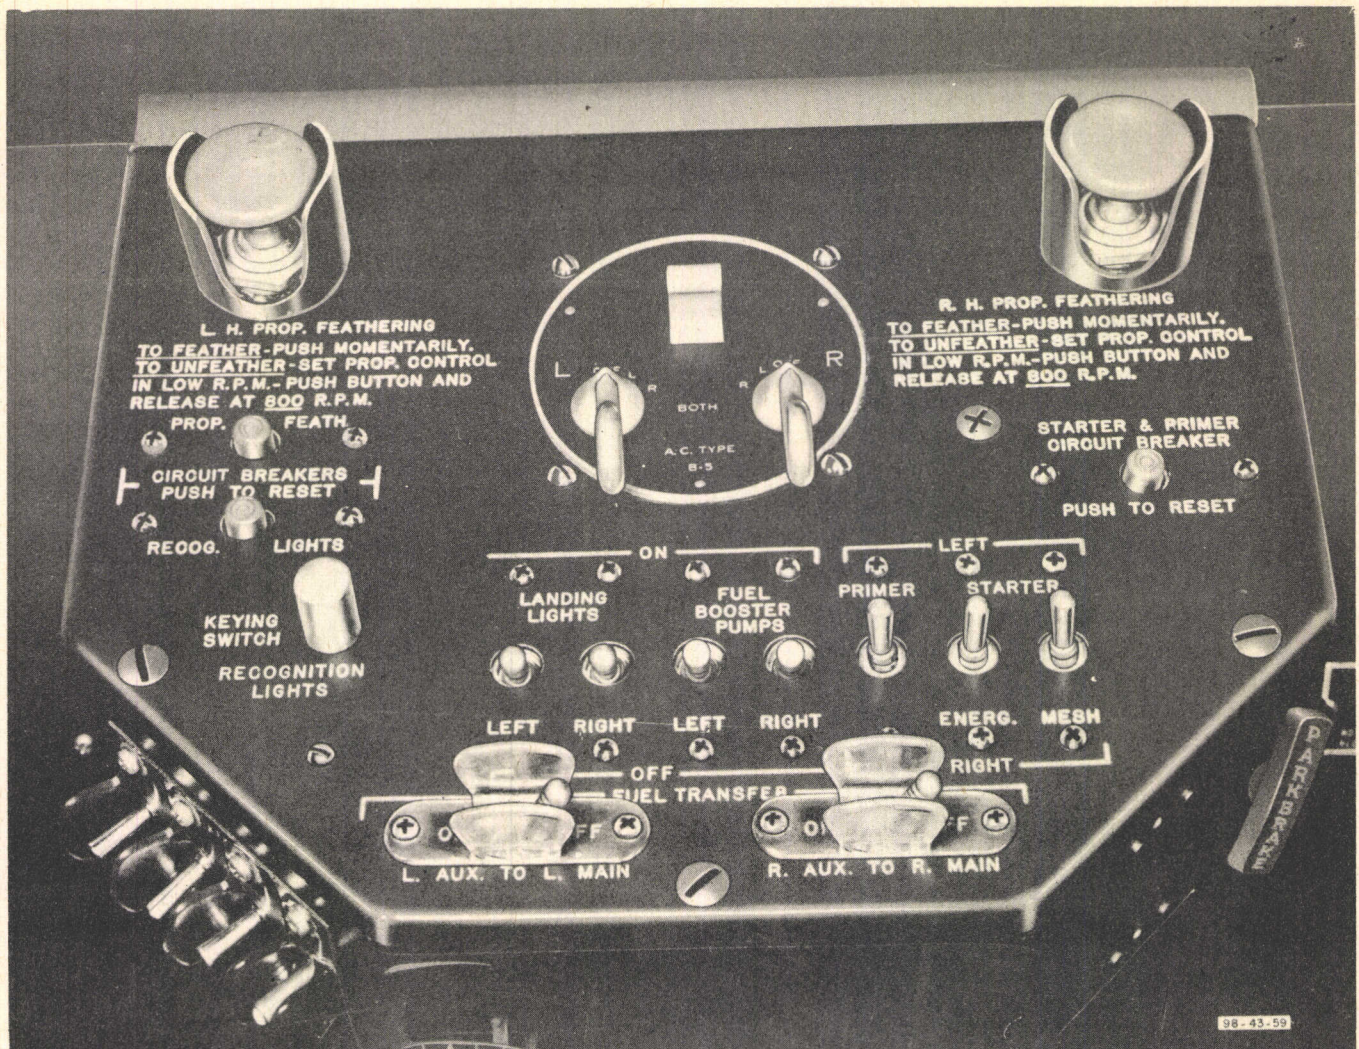

Figure 26—Control Pedestal Switch Panel
- (11) Turn "ON" the fuel booster pump switches, located on the control pedestal switch panel (*see figure 26*). Check the fuel pressure gage for 4 to 5 lbs./sq.in. pressure.
- (12) Turn "ON" the ignition safety switch, located on the pilot's control pedestal.
- (13) Turn the ignition switch for the engine to be started first to the "BOTH" position.
- (14) Press starter energizing switch on control pedestal switch panel to "LEFT" or "RIGHT," depending on which engine is being started first, and hold in place for a maximum of 10 seconds when using an external power source (battery cart), or 20 seconds when using the airplane's batteries.